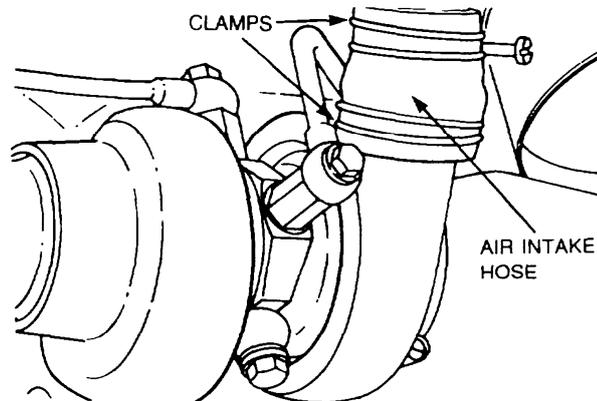

Figure 45 Air Intake Hose Removal
- d. Loosen the air intake hose clamp and slide the hose from the turbocharger (Figure 45).